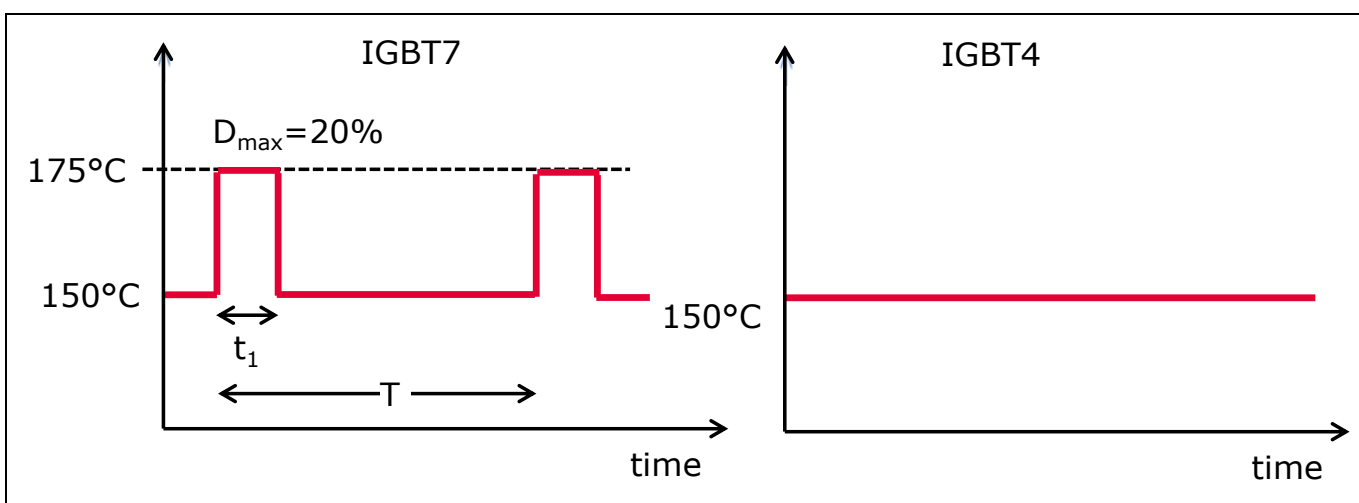
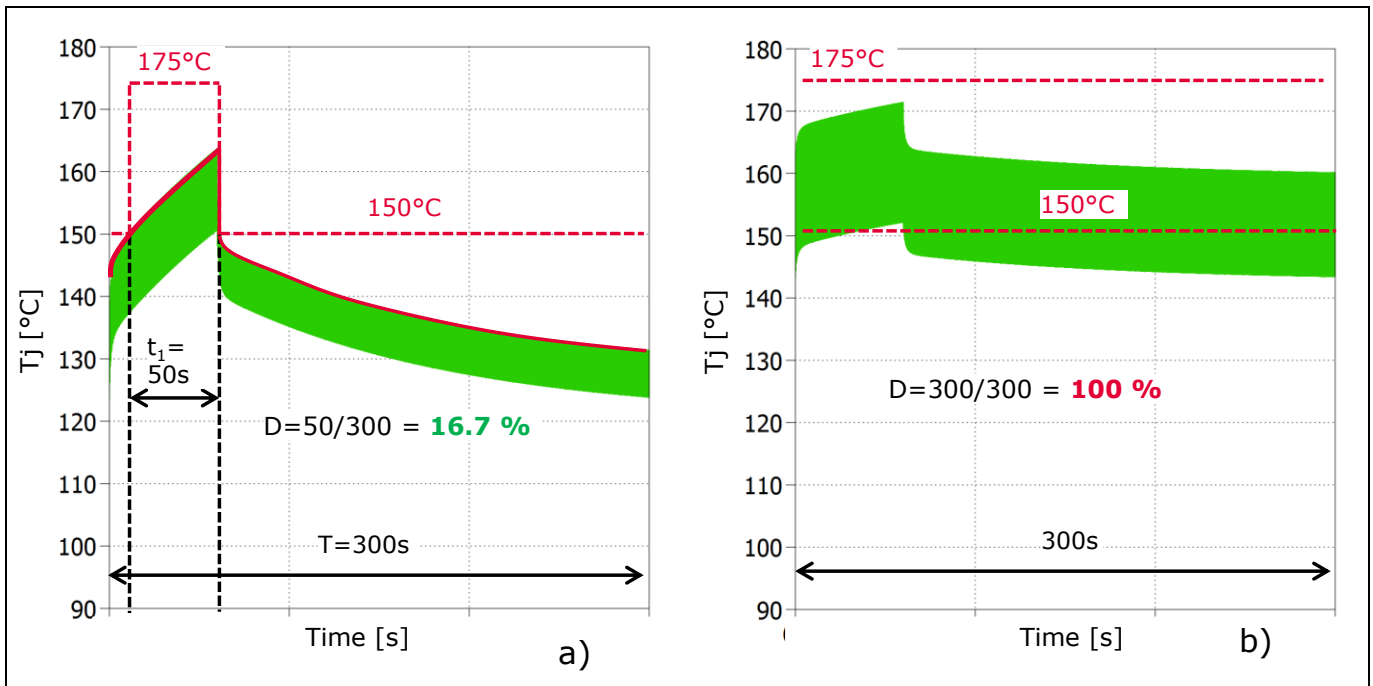

Figure 8 Maximum operation junction temperature definition for IGBT7 and IGBT4
Figure 9 Examples illustrating when the 175°C junction temperature operation is a) allowed and b) not allowed
Figure 8 shows the definition of the allowed operation junction temperature under switching conditions for IGBT7. For normal operation, the maximum junction temperature is 150°C . During overload conditions, a maximum junction temperature above $T_{vjop}=150^{\circ}\text{C}$ and up to $T_{vjop}=175^{\circ}\text{C}$ is allowed for a maximum duration of $t_1=60$ seconds. The overload duration where the T_{vjop} is above 150°C must be within 20% of the load cycle time (T), e.g. $t_1=60\text{s}$ every $T=300\text{s}$. Using this increased junction temperature capability, compared to a maximum $T_{vjop}=150^{\circ}\text{C}$, can enable higher power density, but also can result in higher heatsink temperatures.
The maximum temperature definition shown in Figure 8 should be considered as the maximum T_{vjop} limitation including the temperature ripple due to the fundamental output frequency. Figure 9 provides two examples of junction temperature profiles. In Figure 9a, T_{vjop} exceeds 150°C for $t_1=50\text{s}$. It is below 150°C for the rest of the $T=300\text{s}$ cycle. Therefore, the duty cycle is 16.7%. This condition would be allowed from a maximum operating junction temperature point of view. Another example is shown in Figure 9b. In this case the temperature of 150°C exceeds the maximum curve of the junction temperature for the whole period of the load profile. Therefore, this operation would not be allowed.